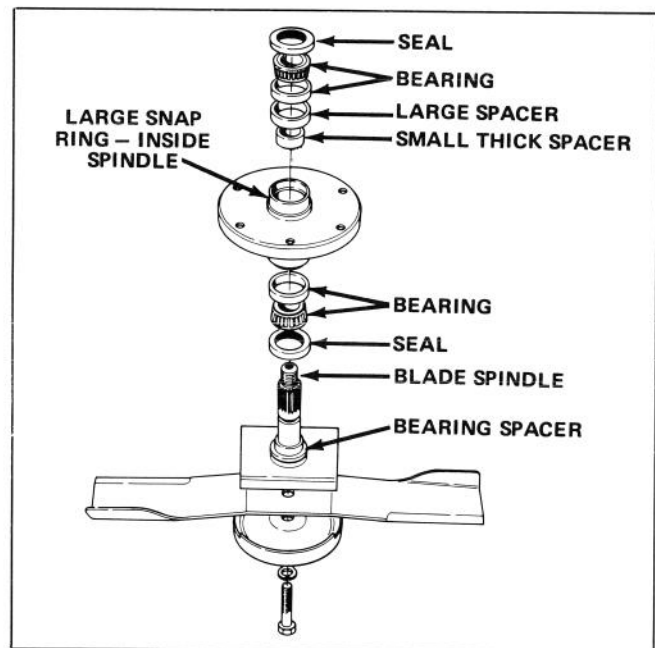
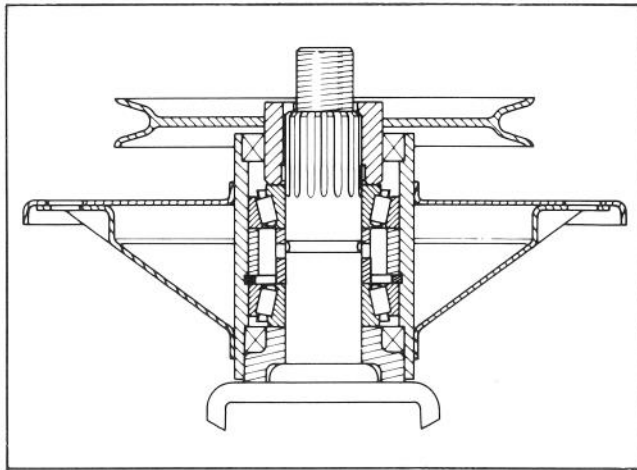
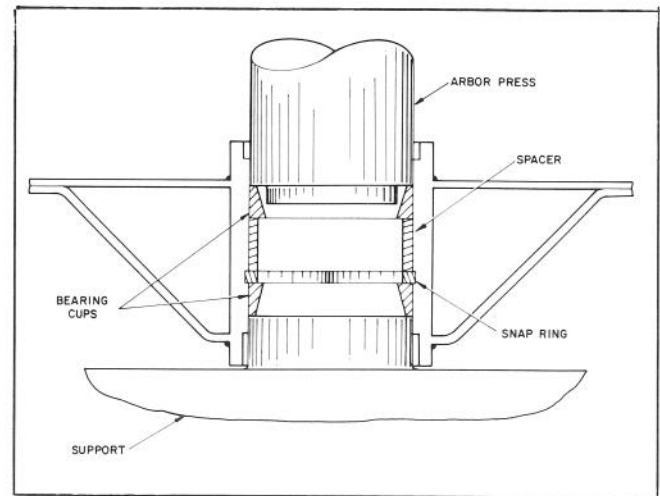

Figure 38
Figure 39
Figure 40
7. If spindle shaft will be replaced, remove blade-bolt, lockwasher anti-scalp cup and blade from spindle shaft (Fig. 38). Otherwise, the blade and its other associated parts may be left on the spindle shaft.
8. Press spindle shaft out of spindle housing (Fig. 38), using an arbor press. Bearing spacer (Fig. 38) remains on spindle shaft as shaft is being removed.
9. The seals (Fig. 38) will be removed next; however, notice the lip of the seal. The lip of the upper seal faces inward, and the lip of the lower seal faces outward. Therefore, new seals must always be
10. Allow bearings and small thick spacer to fall out of spindle housing (Fig. 38).
11. Using a punch and hammer, drive both bearing cups (Fig. 38) out of spindle housing. Also drive large spacer (Fig. 38) out of housing.
1. Install large snap ring into groove in bore of spindle housing (Fig. 39). Assure snap ring is seated in the groove.
2. Using an arbor press, push the large spacer into top of spindle housing and tightly against the snap ring (Fig. 38). Spacer must contact snap ring to be sure of correct assembly of parts (Fig. 39).
3. Thoroughly oil cups and using an arbor press, push bearing cups — smallest ID first — into top and bottom of spindle housing (Fig. 38). Top bearing cup must contact spacer that was installed in step 2, and
bottom bearing cup must contact snap ring to be sure of correct assembly of parts (Fig. 39). Insure assembly is correct by supporting the first cup and pressing the second against it (Fig. 40).
4. Apply a film of grease on lip of both seals; then install bearing and seal into bottom of spindle housing (Fig. 39). Remember though, the bottom seal must have the lip facing outward (Fig. 38) not toward inside of spindle housing.
5. Slide small, thick spacer into spindle housing (Fig. 38). Then, install bearing and seal into top of spindle housing. Lip of the seal must face outward.
7. Slide bearing spacer onto spindle shaft. Carefully slide spindle shaft through spindle housing. Bottom seal and bearing spacer fit together when spindle is installed (Fig. 39).